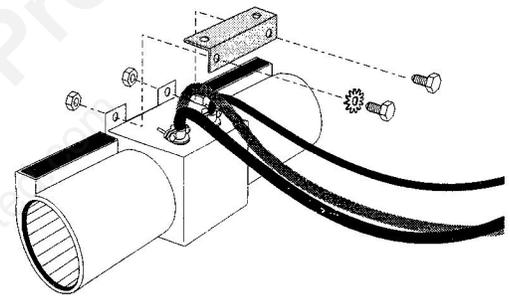

Figure 11. Attach the mounting bracket to the blower assembly.
**3. Install the Mounting Bracket.** Secure it to the blower assembly with two 1/4-20 x 3/4" hex head screws and one of the 1/4" star washers. Fig. 11.
**4. Attach the fan assembly.** Fig. 11.